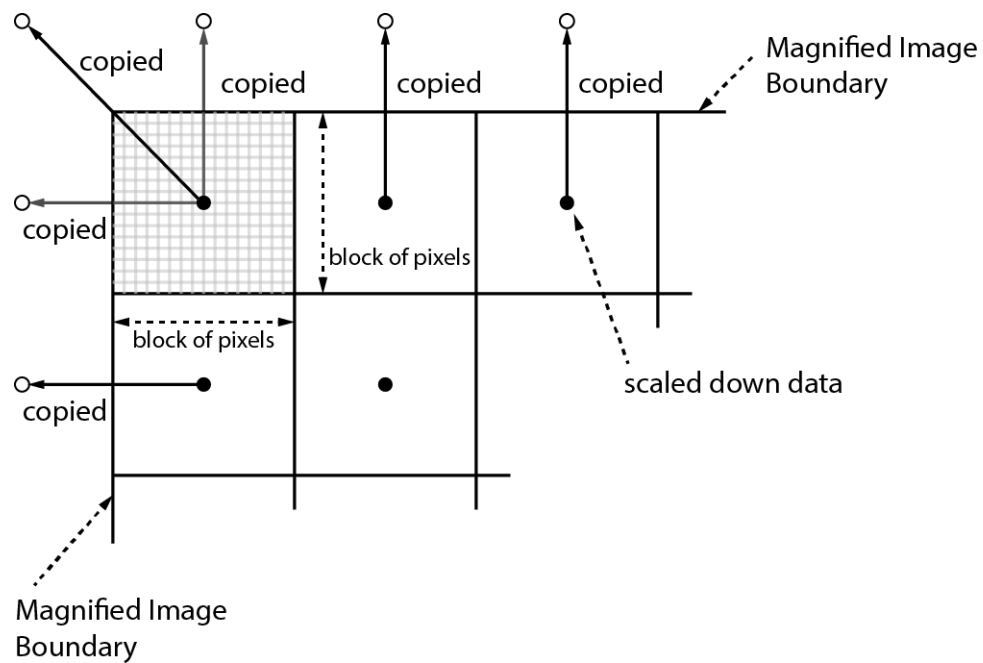

Figure 9.8 Bilinear Interpolated Magnification
3. Execute the **Flat Field Data Save** parameter to save the generated Flat Field data into the non-volatile memory. When the scaled down Flat Field data are used for correction, they are expanded and applied with a Bilinear Interpolation as shown in the Figure 9.8.